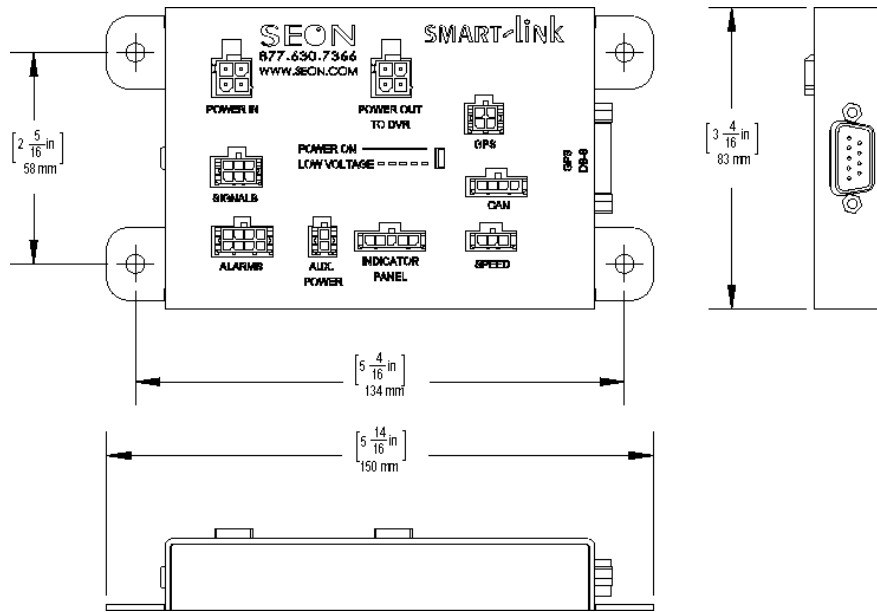

Figure 5 Smart-Link Module
- 1 Mount the Smart-Link using the four #10 × ¾" sheet metal screws or the four #10 × ¾" self-drilling screws. See Figure 5.